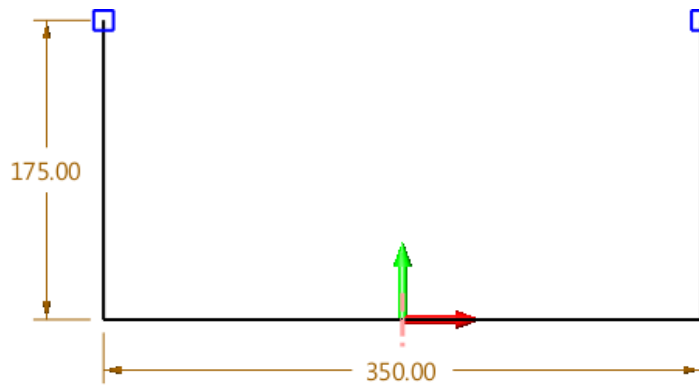

Figure 8 Sketch with Open Profile
STEP 01 Create an open sketch as shown in Figure 8.